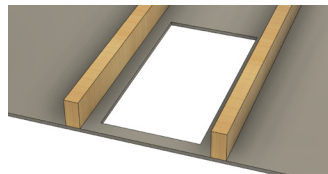

Figure 5
- Determine the installation location. Measure and cut a rectangular hole with dimensions that match the ceiling cutout size. **(Figure 5)**